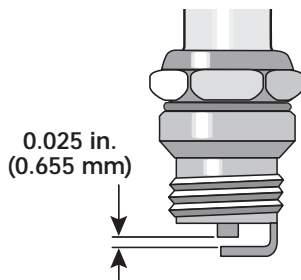

Figure 56
3. Replace cracked, fouled or dirty spark plug. Set the air gap at **0.025 in. (0.655 mm)** using a feeler gauge. See Figure 56.